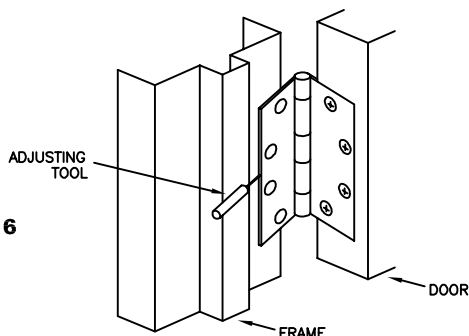

FIGURE 6
Adjustments to the monitoring gap are made by turning the adjusting screw using the adjusting tool included with the hinge. The adjustment screw is reached through the hole centered in the edge of the leaf. See Figure 6.
To adjust the gap, open hinge, insert the adjusting tool and turn one (1) turn **clockwise** to **decrease** the gap or **counterclockwise** to **increase** the gap. Recheck gap with ohmmeter by slowly closing hinge. Repeat procedure until the desired gap is achieved. See figure 6.